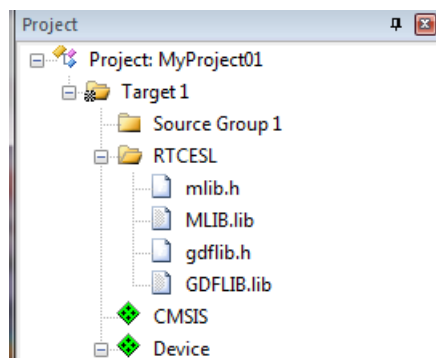

Figure 1-25. Project workspace
8. Now, all necessary files are in the project tree; see Figure 1-25. Click Close.